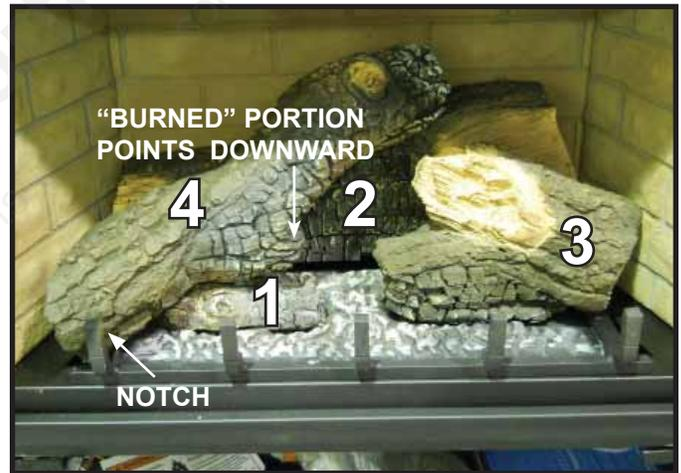

Figure 4.
**LOG #4 (SRV2117-704):** Place log #4 so that the right end of the log sits in the flat spot of log #2. The left end of the log will sit on the left grate tine and also contact the vertical portion of the grate tine as shown in Figure 4. The "burned" part of the log should be pointed downward.